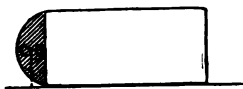
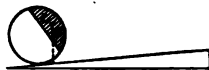

Fig. 86.
Fig. 87.
2. A body falls when, under the influence of its weight only, its center of gravity is lowered. What does the "witch" (Fig. 86) do when it "rises"? The "loaded disk" (Fig. 87) when it "rolls up-hill"?